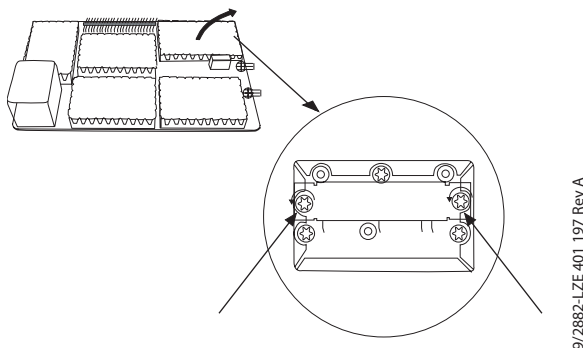

Figure 16 Removing two screws.
11. Unscrew the two screws as per Figure 16.